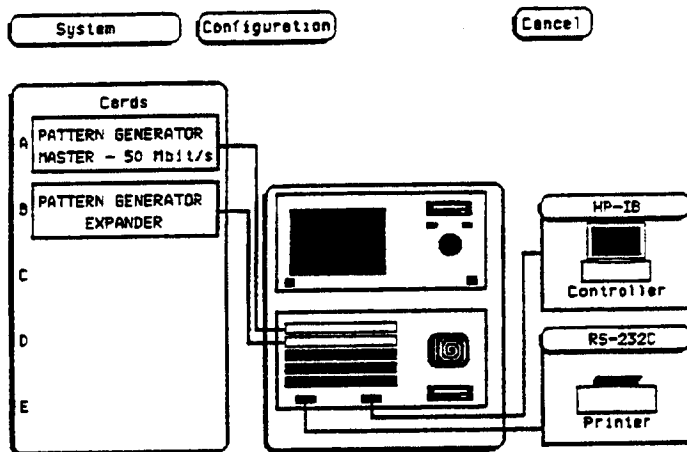

Figure 3-2. Startup Screen
- c. From the startup screen shown in figure 3-2, touch the following fields in the sequence below: